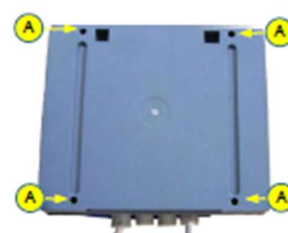
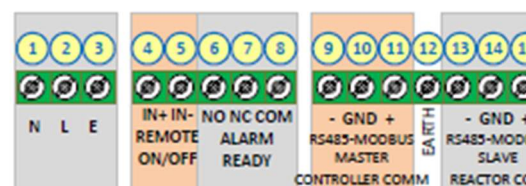

Figure 5-18: Control Module's Back
Figure 5-20: Control Module Terminal Connectors
- Step 2. To connect an External On/Off signal, thread the signal cable through one of the holes with plastic glands on the bottom (5) and connect the wires to the appropriate connectors as show to the right (6) and as shown in Figure 5-20 as terminals 4 and 5 (corresponding to 6 in Figure 5-18).
- Step 3. To connect a General Alarm signal, thread the signal cable through one of the holes with plastic glands on the bottom (5) and connect the wires to the appropriate connectors as show to the right (6) and as shown in Figure 5-20 as terminals 6, 7 and 8 (corresponding to 6 in Figure 5-18).
- Step 4. To connect to an external facility control via Modbus, thread the signal cable through one of the holes with plastic glands on the bottom (5) and connect the wires to the appropriate connectors as show to the right (7) and as shown in Figure 5-20 as terminals 12, 13, 14 and 15 (corresponding to 6 in Figure 5-20). For more information, see Appendix A, *Modbus Communication Protocol*. Add jumpers to any unused pins as shown in the diagram below.
- Unfasten the Data cable from the connectors as show to the above (7) as terminals 9, 10 and 11 (- GND +) (corresponding to 6 in Figure 5-18).
- Loosen the plastic nut of gland (2) and pull it through and out of the plastic gland at the bottom.
- Thread the longer Data cable through its plastic gland (2) and fasten it to the appropriate connectors mentioned above.